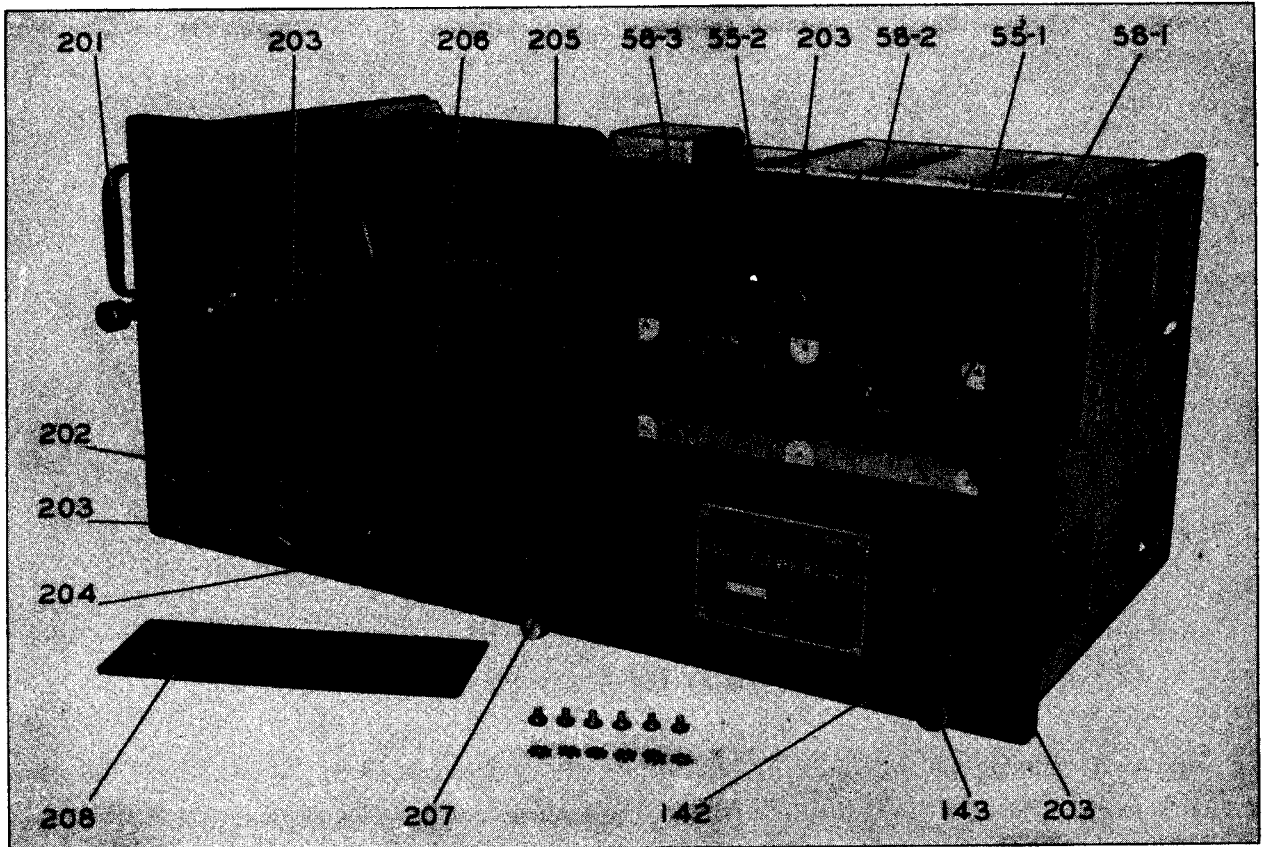

Figure 1-3. Radio Receiver BC-348-(\*) or BC-224-(\*)—Front View of Chassis with the Tube Shelf Cover Removed
c. PANEL.—The front panel is attached to the chassis and to the end plates by screws. Two handles are mounted on the panel. A cutout, covered by a plate, is provided to give access to the wiring under the r-f tube shelf for servicing and maintenance. (See figure 1-3.) The following panel items are mounted on the front of the panel: Antenna and ground binding posts; antenna alignment control "ANT ALIGN"; dial lights rheostat control "DIAL LIGHTS"; tuning control "TUNING"; band switch control "BAND SWITCH"; dial window housing which covers the dial lights; beat frequency control "BEAT FREQ"; crystal filter control "OUT-CRYSTAL-IN"; volume control "INCREASE VOL; AVC-OFF-MVC" control; "C.W. OSC" control; and two telephone jacks "TEL."